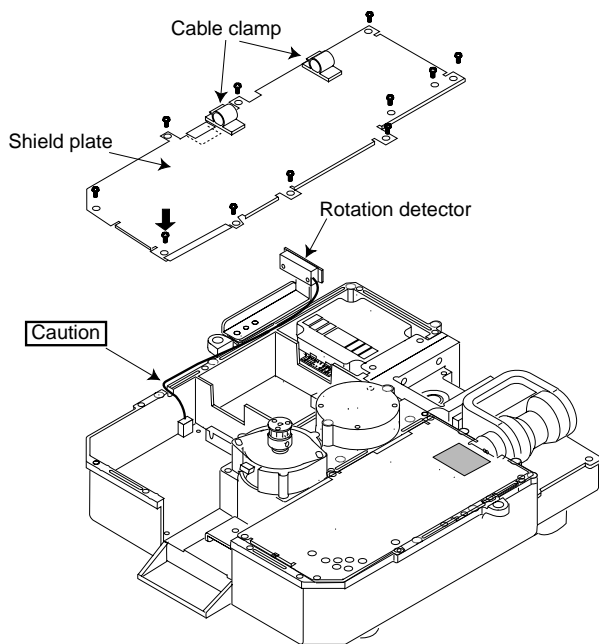

Figure 6 Antenna unit, inside view
6. Unfasten 11 screws to dismount the shield plate. Discard screw marked with ↓ in the Figure 6.
11. Refasten the shield plate with 10 screws. Be sure not to pinch cable from the rotation detector with the shield plate. See "Caution" in Figure 6 for details.